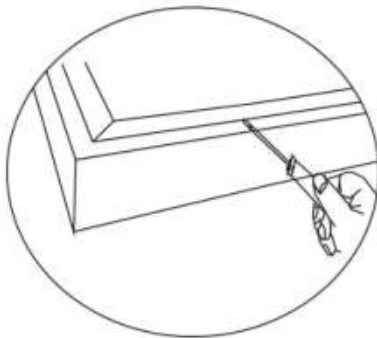

Fig. 1
- Remove the diffuser by inserting a small plastic flat-headed tool into the frame (see Fig. 1)